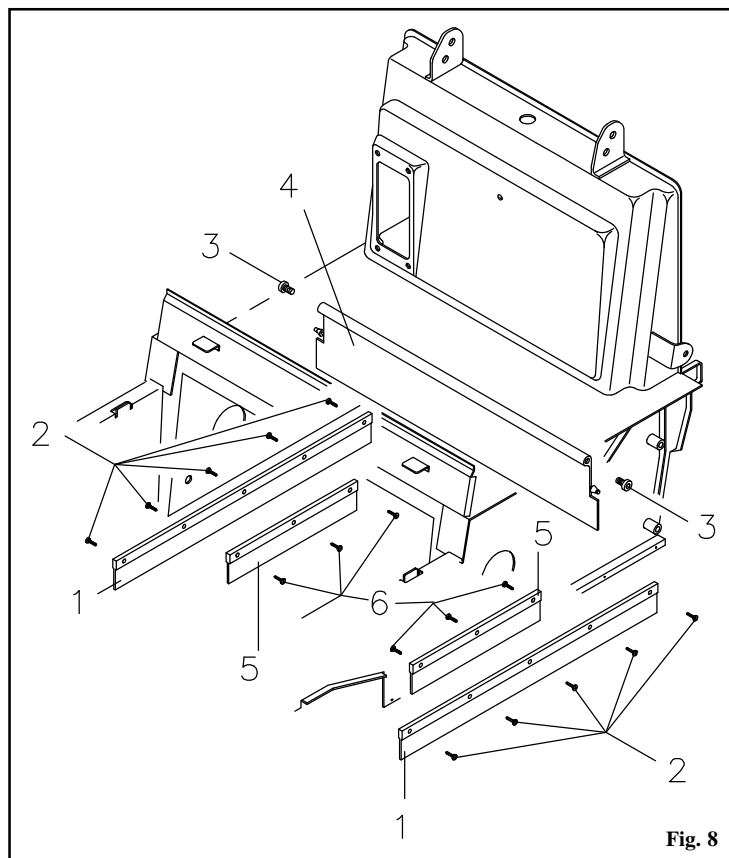

Fig. 8
To replace the side flaps **pos. 1 Fig. 8**, remove the rear wheels and the relevant side guards. Loosen the screws that secure the flaps to frame **pos. 2 Fig. 8** and replace the old flaps with new ones.
To replace the inner side flaps **pos. 5 Fig. 8**, lift the front part of the machine and loosen screws **pos. 6 Fig. 8** that secure the flaps to the frame. Replace the old flaps with new ones.
- Loosen the two flap fixing pins **pos. 3 Fig. 8**, located on the sides of the frame.
- Grasp flap **pos. 4 Fig. 8** and pull it outwards.